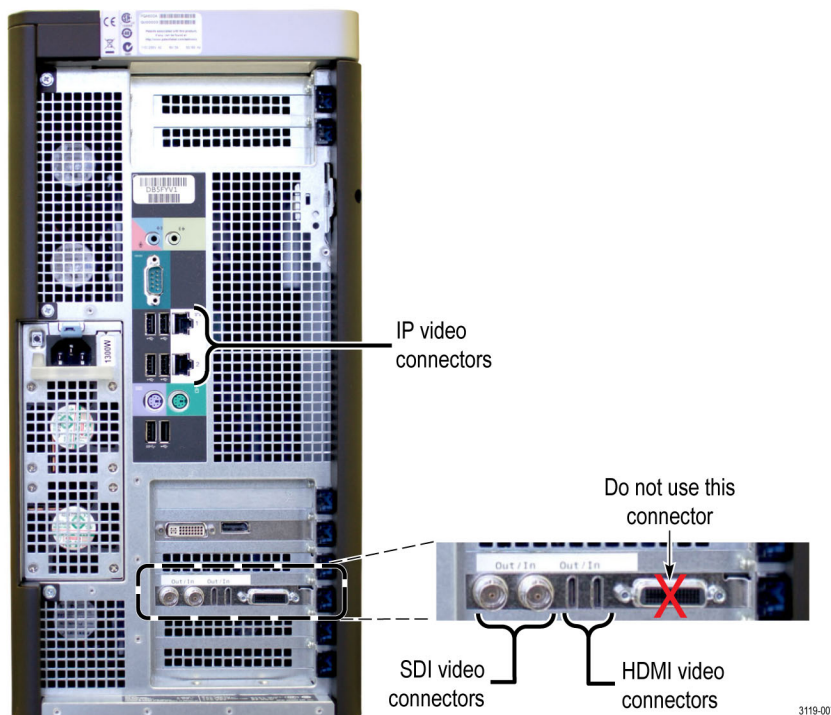

Figure 2: PQA600A video signal connections
2. If you will be capturing video to analyze or if you will be outputting video, make the following video signal connections to the analyzer (See Figure 2.):